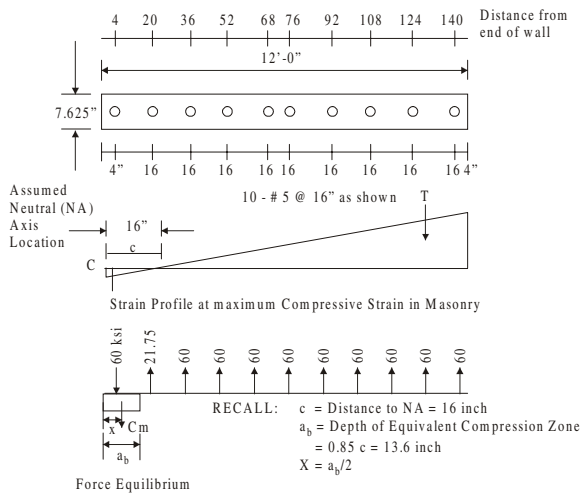

Figure 11-28. Steel locations, strain profile and force equilibrium diagrams
3. Nominal bending moment strength ( $M_o$ ): See Figure 11-28.